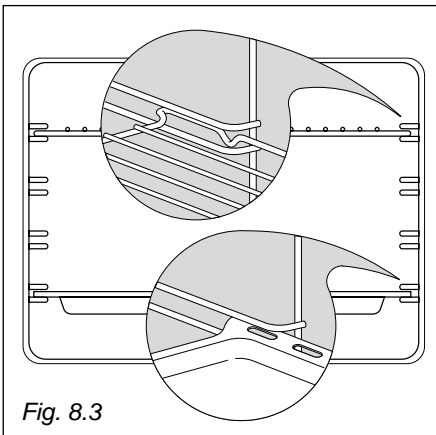

Fig. 8.3
- Slide in, on the guides, the shelf and the tray etc. (Figure 8.3).